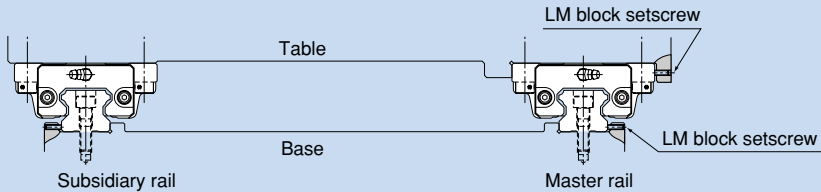

Fig. 1 When an Impact Load is Applied to the Machine
① Gently place the table on the LM blocks and temporarily secure the mounting bolts.
② Press the master side LM blocks to the side datum plane of the table using setscrews and position the table (Fig. 1).
③ Fully tighten the mounting bolts on the master side and the subsidiary side to complete the installation.